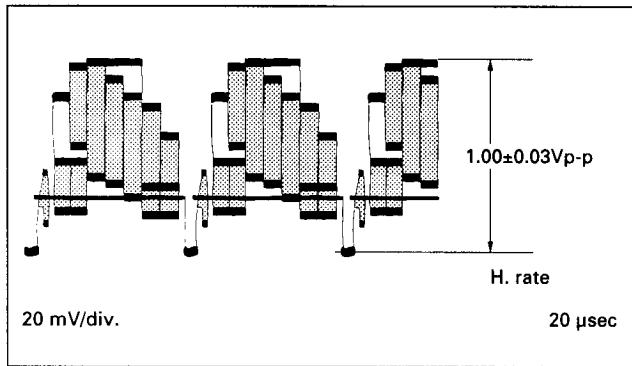

Fig.3-4-6 PB Y level
- (1) Connect an oscilloscope to VIDEO OUT TERMINAL.
- (2) Record a color bar signal in S-VHS(VHS) mode.
- (3) Adjust **SET** or **SELECT** button for $1.00 \pm 0.03\text{Vp-p}$ as shown in Fig.3-4-6.
- (4) Set normal VCR mode by pressing **MENU** button so adjustment data is memorized.